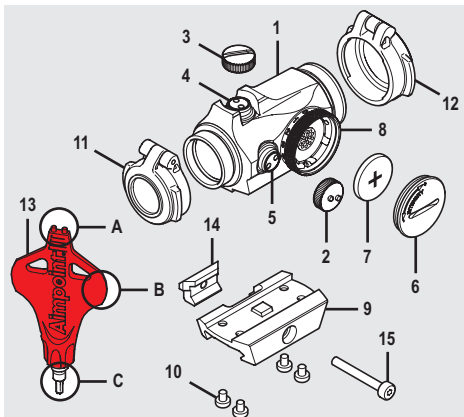

Fig. 1
- a Remove Battery cap (6) using the Tool (13B).
- b Insert Battery (7) with the positive end (+) toward Battery cap (6) as can be seen in Fig 1.
- c Turn to the Rotary switch (8) to intensity setting 12 (max.) and tighten the Battery cap (6) with the Tool (13B). When resistance is encountered, proceed to tighten until the Battery cap (6) comes to a **stop**.
- d Verify that the red dot is present and that there is **zero** gap between the Battery cap (6) and the battery compartment.